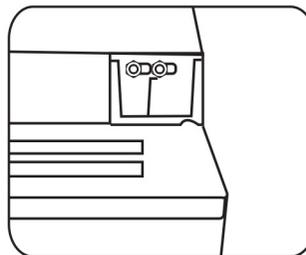

Fig 4.3.3
2) Use a hexagonal screwdriver to remove the two screws connecting the door, as shown in the figure 4.3.3 (be cautious not to lose the metal anti-slip washers in between).